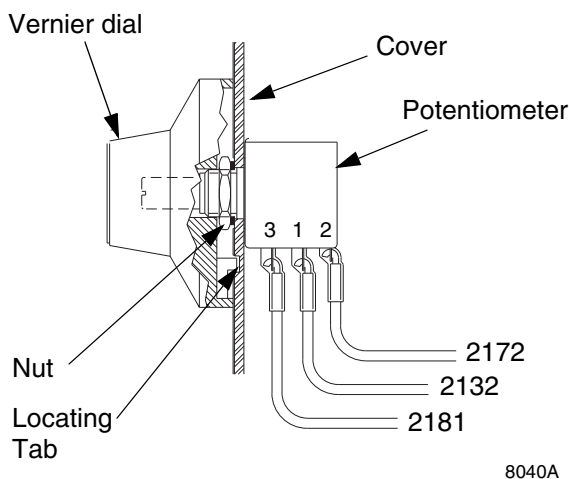

FIG. 15
- Assemble the red rotor, which is keyed, onto the yellow mounting plate with one flat head screw. See Fig. 15.